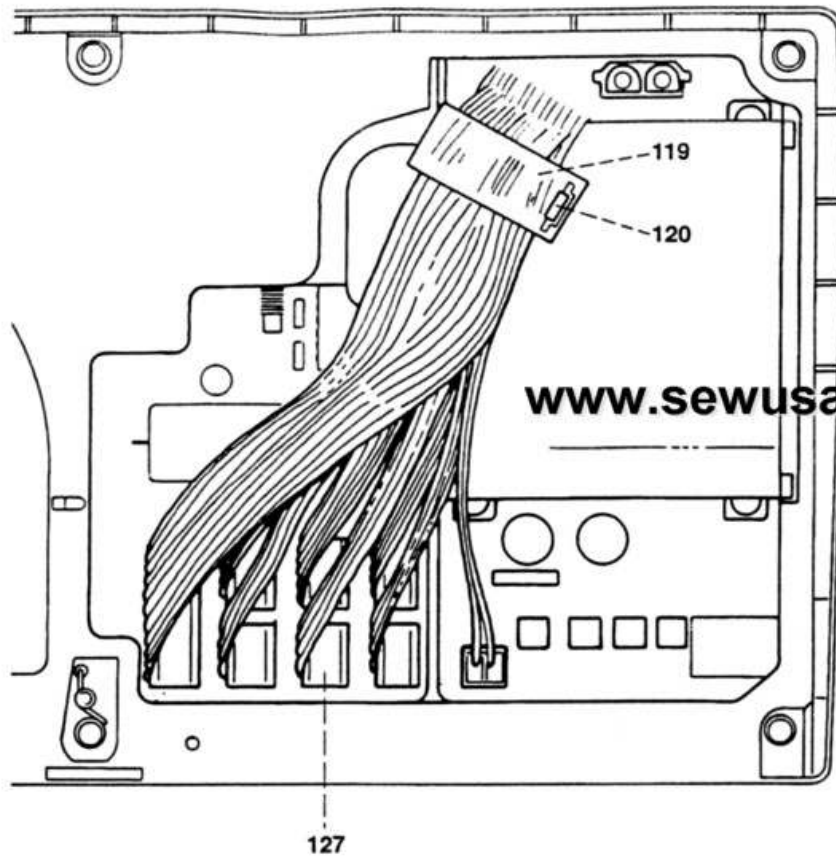

Fig. 31
- Pull off the plug of five-wire flat cable 127 (fig. 31).
- Connect the plug to the circuit board (fig. 31).